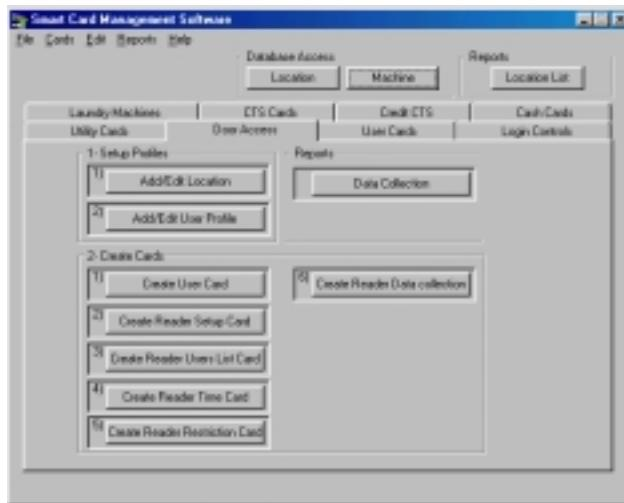

Figure 2.20 Door Access Manager
2.2.6.10. Door Access Manager (Figure 2.20)